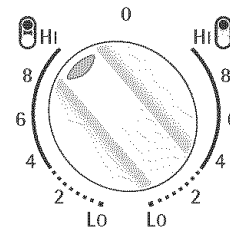

Figure 1
2. Push in and turn the control knob counterclockwise (See Figure 1) to heat the portion of the Bridge element for normal shaped cookware or clockwise (See Figure 2) for larger or rectangular shaped cookware.